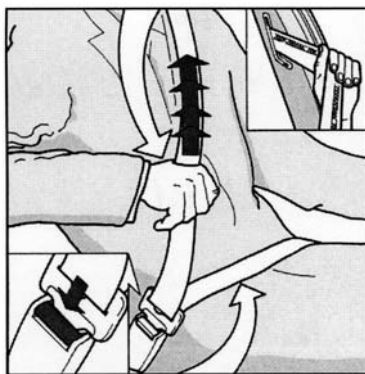

Fig. 5.3. Fastening by Seat Belt
**To fasten the belt (Fig.5.3) it is necessary** to pull the belt webbing slowly by the tongue over the shoulder and across the chest and push it into the buckle nearest the wearer; a click will indicate that the belt is locked.